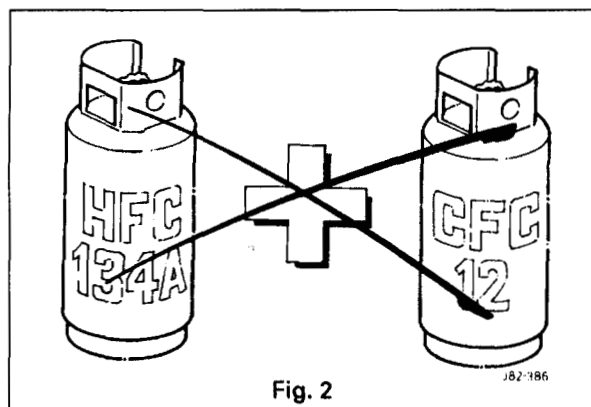

Fig. 2
- **HFC 134A** and **CFC 12** must never come into contact with each other (Fig. 2), they will form an inseparable mixture which can only be disposed of by incineration.